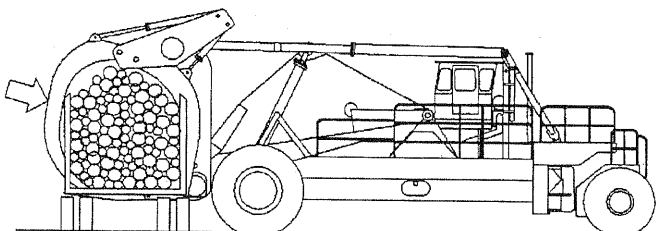

Fig. 4-4
2. Move in until the back of the carriage is against the load. Partially clamp the load to prevent logs from rolling off. See Fig. 4-4.
4. Securely clamp both holddown arms before the binder chains are removed. See Fig. 4-4.